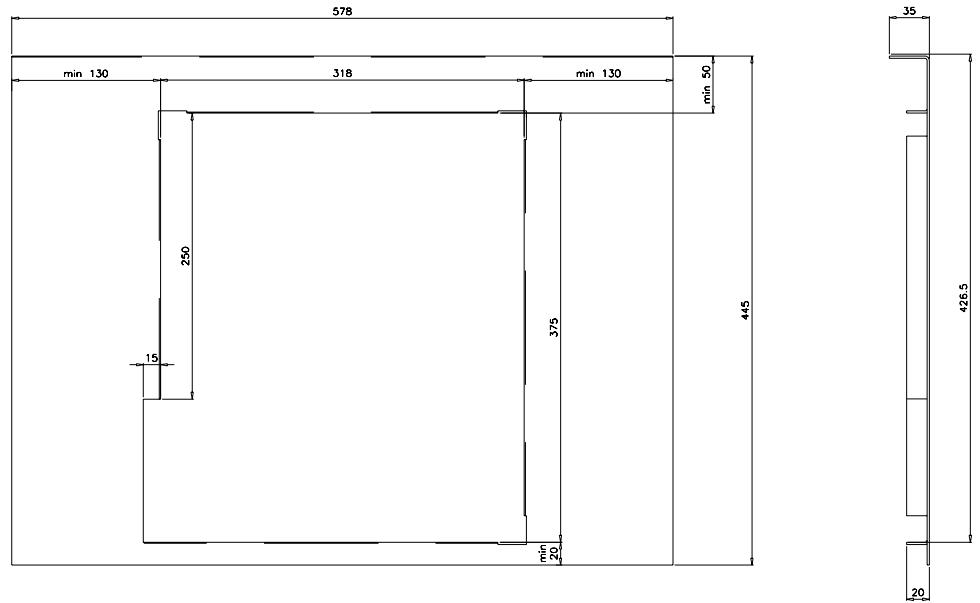

Figure 2-13 Air baffle for Frame B4 supply module.
**Frame B4** Frame B4 supply modules are fixed to the rear wall of the cabinet with two screws, and to the floor of the cabinet with further two. The weight of the module(s) is supported by the cabinet floor. An air baffle must be used to prevent air from circulating inside the cabinet; Figure 2-13 shows a suitable design. The input and output connections on the left side of the module are made using busbars.